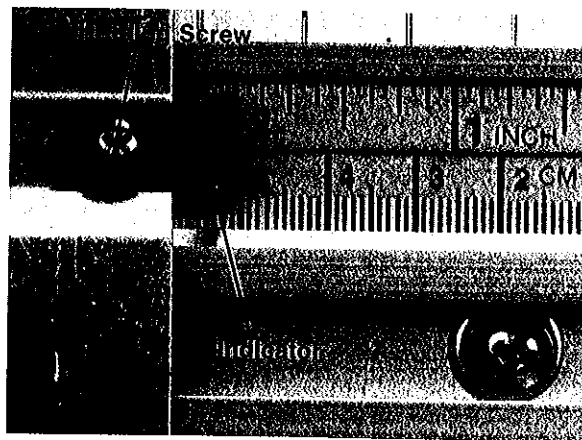

Figure 9.
3. With the **Mat Guide** assembly still located against the **Locator Pin** at the 2" position, check the scale **Indicator**. It should be reading 2". If not, loosen its holding screw and slide the **Indicator** to the right or left until it reads 2". Tighten the holding screw. (See Fig. 9).